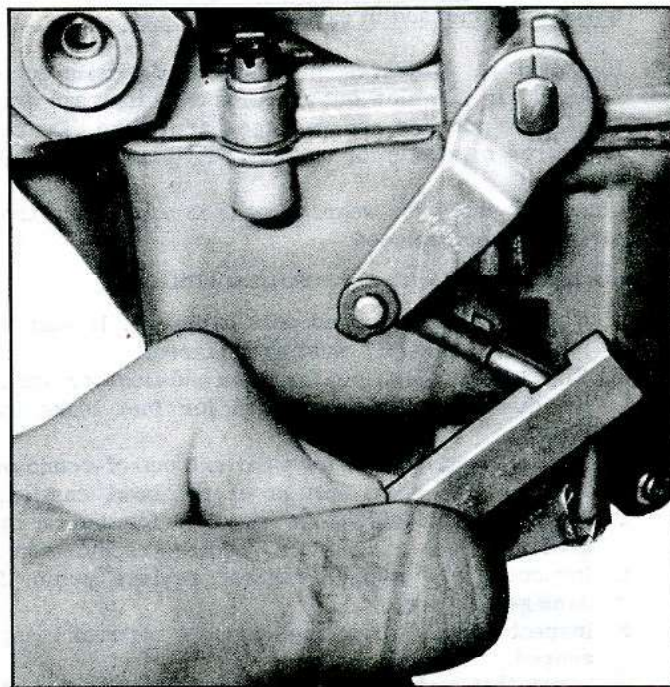

Fig. 24—Adjusting Pump Rod
12. **Adjust Pump Rod as follows (Fig. 24):**